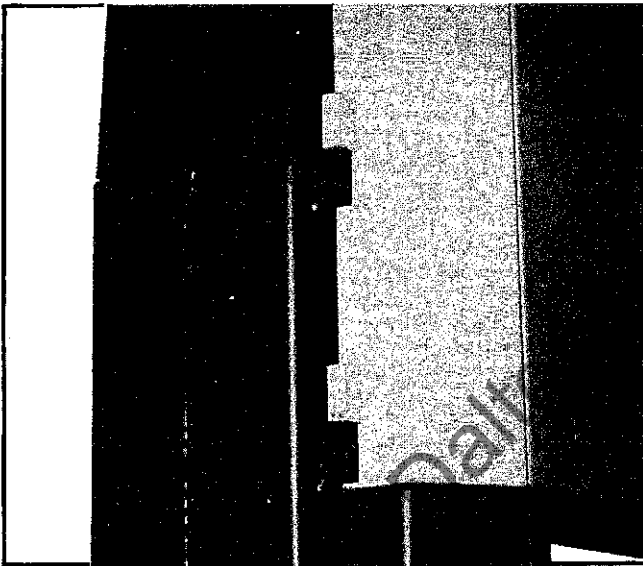

FIG 3
3. Locate top door on hinges, FIG.3, and bottom door on hinges, FIG,4.